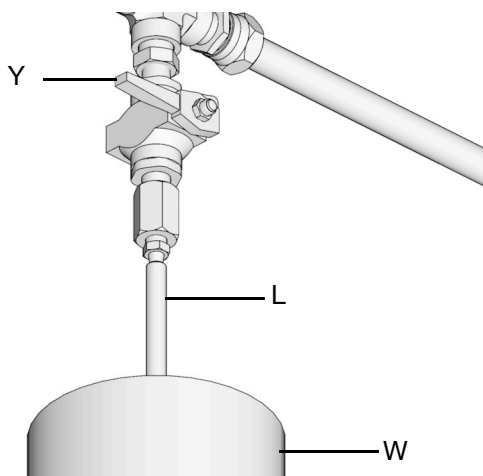

FIG. 20:
- a. To relieve pressure between the Refill Pump (F) and Auto-Fill Shut Off (B), open ball valve (bv) (FIG. 20). Pressure will be released and excess fluid will drain out of the drain tube (L) and into the lubrication overflow container (W).